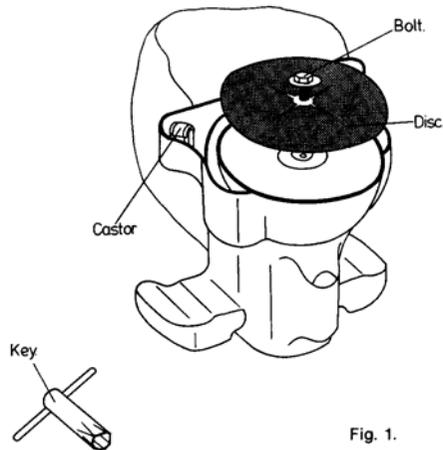

Fig. 1.
2. Turn the machine over so that it is standing on its head (fig. 1) to give access to the underside.
3. Remove the disc attachment bolt (anti-clockwise) with the key provided, and remove used disc. (Fig. 1).